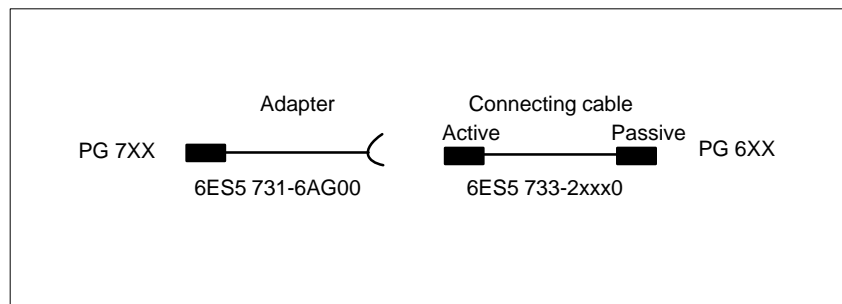

Figure 3-9 Direction of Connection: Adapter - Connecting Cable
1)When connecting the programming devices in series, make sure you connect the cable the right way around (see Figure 3-9).